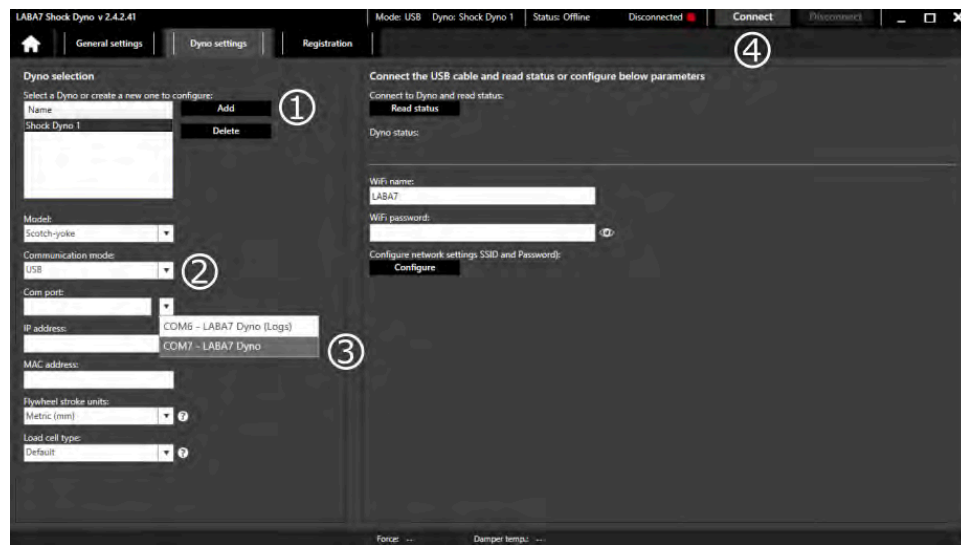

Figure 17
5. Add a new Dyno model by clicking Add button (Figure 17 – Step 1).
7. Select Communication Mode by clicking on the drop-down menu (Figure 17 – Step 2):
10. From 2 newly appeared com-ports select **COM7 - LABA7 Dyno** (Figure 17 – Step 3).
11. Press Connect (Figure 17 – Step 4).